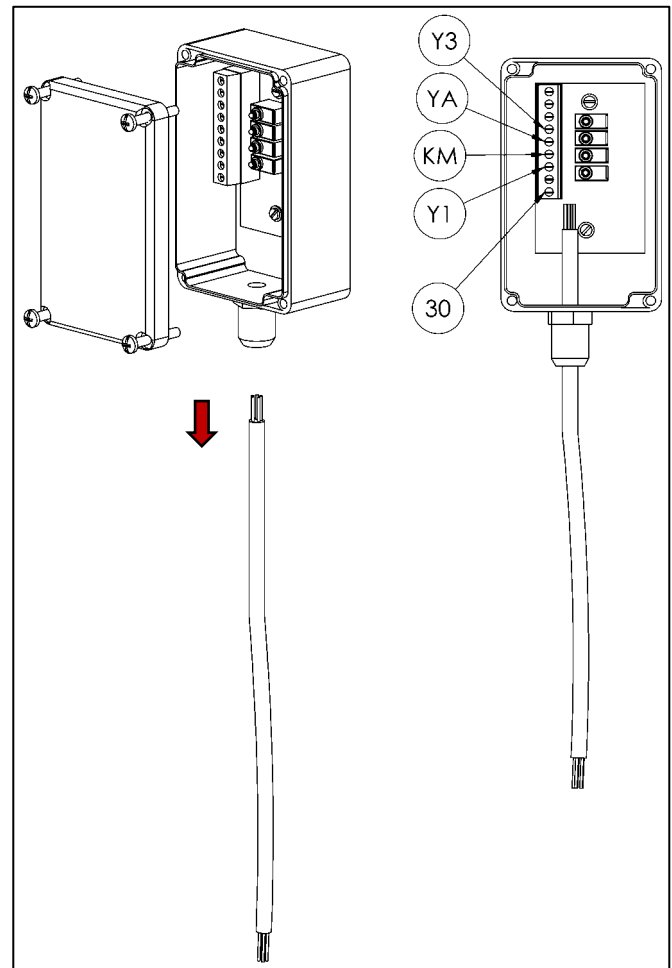

Fig. 31
- Disconnect the service switch box from the cable by loosening the screw terminals in the housing (see Fig. 31).
- Reconnect the service switch to the routed cable as shown in Fig. 31.